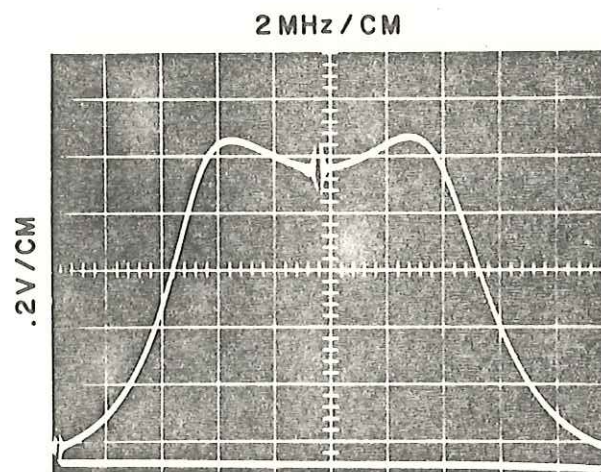

Figure 4-3. Typical Response, 160 MHz IF Amplifier (10 MHz BW)
- (10) Adjust capacitors A6C23 and A6C29 for proper response and symmetry. A typical response curve is shown in Figure 4-3.